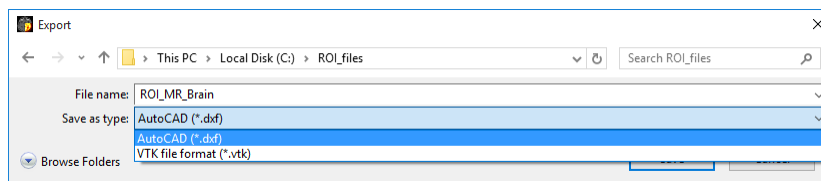

Figure 266 – Export dialog
2. Select the desired file format, the file name and the target folder in the displayed **Export** dialog (see Figure 266).